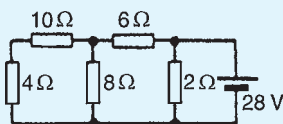

Figure 13.51
4. In the network shown in Fig. 13.51, the battery has negligible internal resistance. Find, using Thévenin's theorem, the current flowing in the  $4\ \Omega$  resistor. [0.918 A]